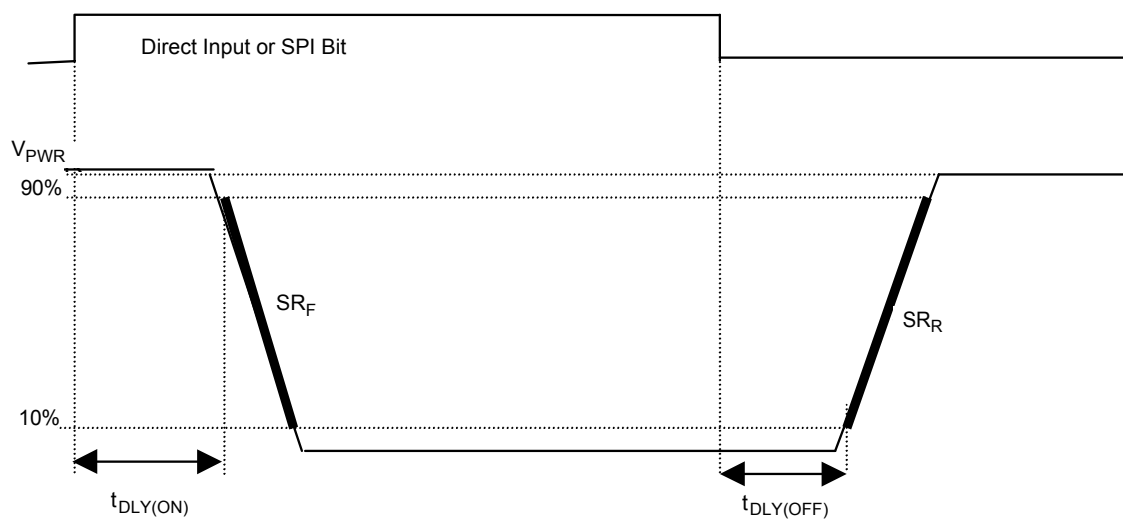

Figure 3. Output Slew Rates and Time Delays, Low Side
31. Low-side output rise and fall slew rates measured across a  $5.0\ \Omega$  resistive load at low-side output = 10% to 90% (see Figure 3, page 18).
32. Low-side output turn-ON delay time measured from 50% of the rising ILS to 90% of  $V_{OUT}$  with  $R_L = 27\ \Omega$  resistive load (see Figure 3, page 18).
33. Low-side output turn-OFF delay time measured from 50% of the falling ILS to 10% of  $V_{OUT}$  with  $R_L = 27\ \Omega$  resistive load (see Figure 3, page 18). These parameters are guaranteed by process monitoring.